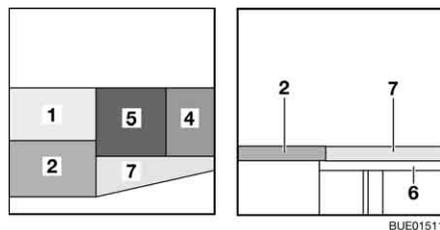

Fig. 127 After conversion
- Place the seat cushion (Fig. 127,5) in the centre.
- Place the back cushion (Fig. 127,4) between the seat cushion and the wall.
- Hook the bed widening (Fig. 127,6) into the recesses on the bench seats.
- Place the additional cushion (Fig. 127,7) on the bed widening.